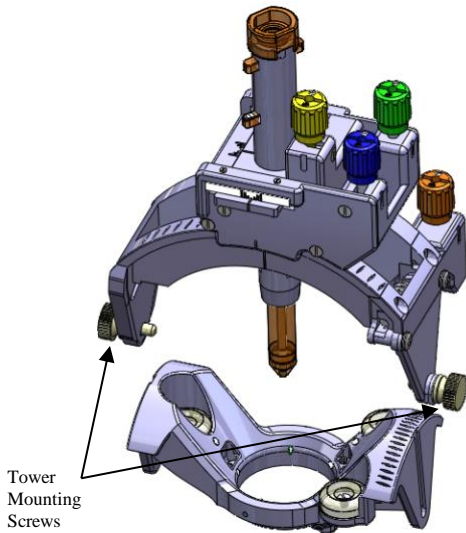

Figure 5a
8. Mount the Tower onto the Base by first loosening then grasping the Tower Mounting Screws. Grasp the Tower by the top rectangular gear housing. Align each screw with the mating grooves on the Base. **See Figure 5a.** Slide the Tower into place and ensure screws seat into the mounting holes on the Base.